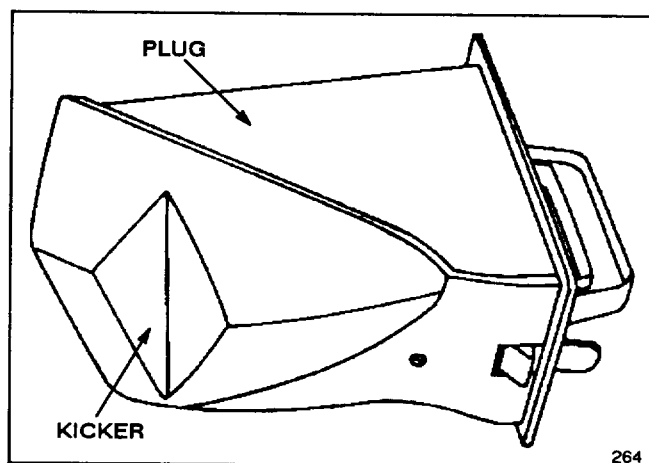

Figure 10
- C. A special plug which locks into the mower's discharge tunnel (a fifth kicker is on the plug) (Fig. 10)
It is possible to mow without using the plug by closing the discharge tunnel door. However, your lawn appearance will be much more satisfactory if you use the plug as it has an additional kicker (Fig. 10) that helps drive the clippings down into the grass.